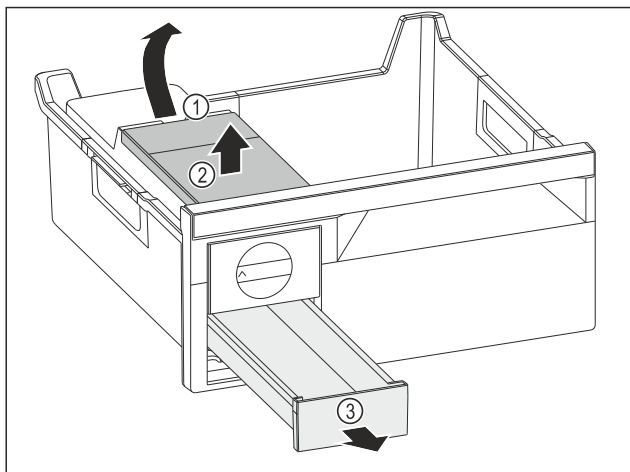

Fig. 143
- Removing the water tank: Lift the water tank by the recess Fig. 143 (1).
- Remove the water tank Fig. 143 (2) upwards.
- Remove the ice cube drawer Fig. 143 (3) to the front.